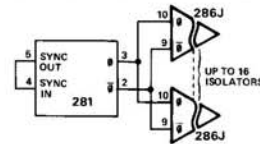
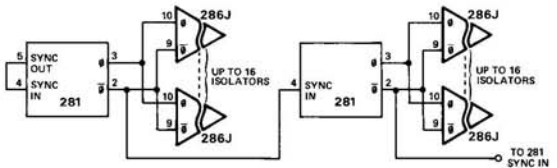

Figure 25. Model 281/286 Connection for Driving from 1 to 16 Isolators
Figure 26. Model 281/286 Connection for Driving > 16 Isolators
Model 281 oscillator is capable of driving up to 16 model 286Js as shown in Figure 25. An additional model 281 may be driven in a slave-mode, as shown in Figure 26 to expand the total system channels from 16 to 32. By adding additional model 281's in this manner, systems of over 1000 channels may be easily configured.
- For applications requiring more than 16 286Js, additional 281s may be used in a master/slave mode. Refer to Figure 26.